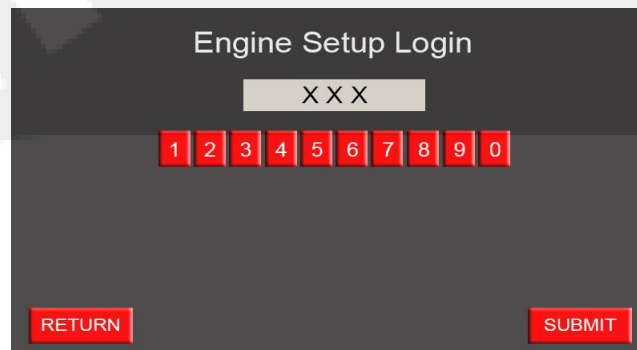

Figure 4-6 Engine Setup Login Screen (Typical)
2. As shown in Figure 4-6, press the soft number keys to enter password “806” in the Engine Setup Login screen.